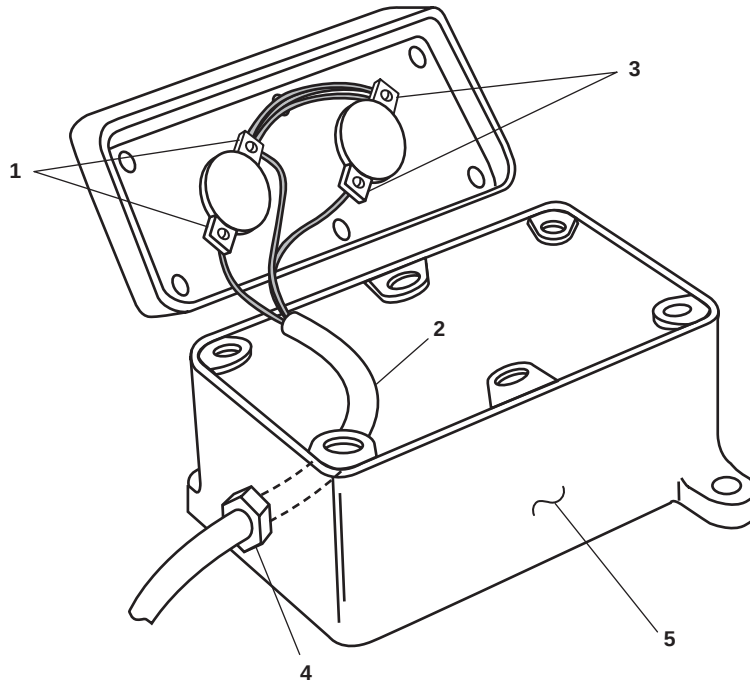

Figure 3. Blinker Key Wiring
3. Use a multimeter to check for voltage at the switch contacts (figure 3, item 1). If voltage is present, ensure that the proper circuit breaker is set to OFF, locked out, and tagged out (FM 55-502). If no voltage is present, continue with the procedure.
4. Label and remove the wiring (figure 3, item 2) from the switch terminals (figure 3, item 1) and from the light terminals (figure 3, item 3).
5. Loosen the strain relief (figure 3, item 4) and remove the wiring (figure 3, item 2) from the base (figure 3, item 5).
2. Install the wiring (figure 3, item 2) through the base (figure 3, item 5) and tighten the strain relief (figure 3, item 4).
3. Install the wiring (figure 3, item 2) to the switch terminals (figure 3, item 1) and to the light terminals (figure 3, item 3) using the labels from step 4 of Removal as a guide. Remove the labels.